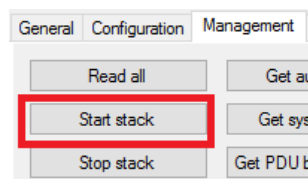

Figure 6: Start the sink
- iii. Start the radio stack on the "MSAP" tab (see figure 6).